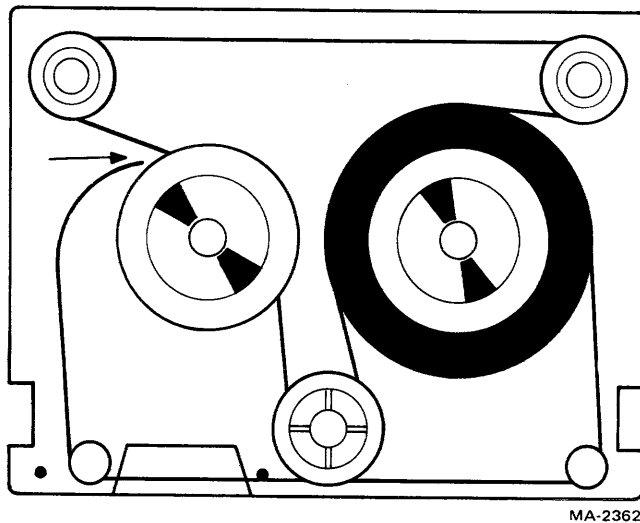

Figure 2-6 Threading the Metal-Base Cartridge
3. Thread the end of the tape around the tape guides (Figure 2-6).